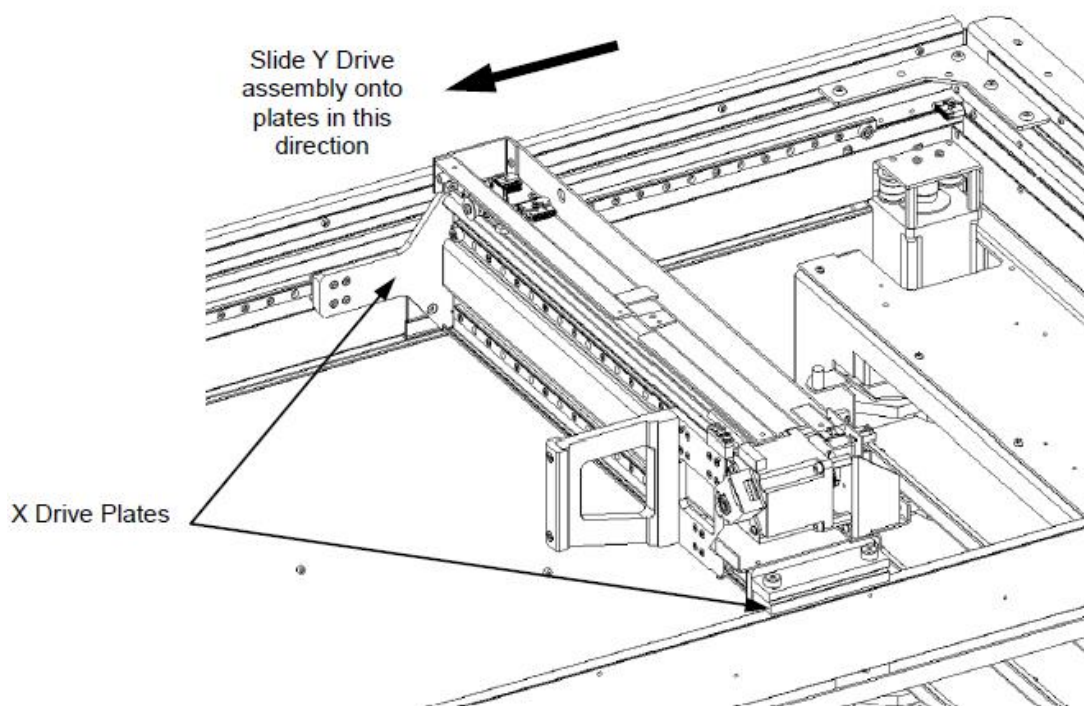

Figure X-4: Removing the Y Drive
4. Remove the main Y drive (Figure X-4) by removing the screws which attach it to the X drive.
7. Fit the motor assembly to pillars on the Motor Corner Plate using four screws and washers. Affix Loctite 222 to the screws. When fitting the motor assembly, note the orientation as shown in Figure X-4.